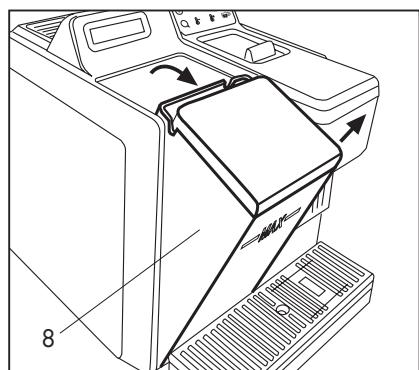

Fig. 1
- To extract the tank, lightly press the top, slide and turn it outwards. Lift the tank upwards once it is disconnected from the compartment. (**Fig.1**)